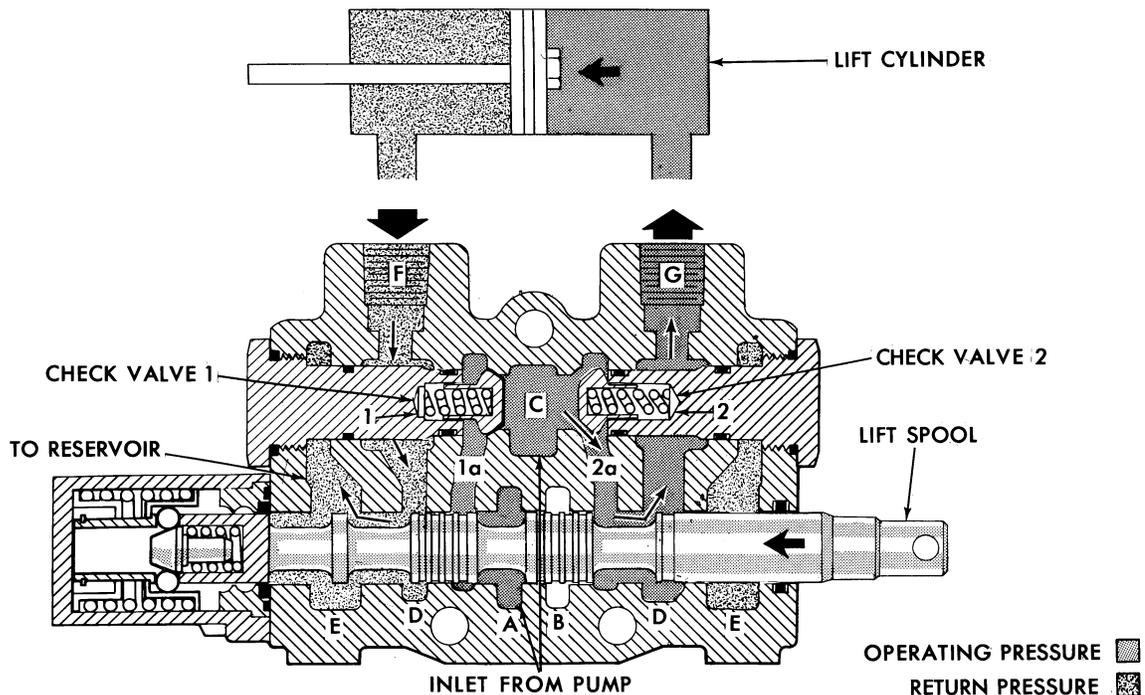

Figure 21
In operation, the check valve, Figure 21, is retained on its seat by spring force. At initial spool movement the natural tendency is for the oil, which is under external pressure, to seek passage at an area of lesser pressure. If the cylinder end passage is filled, the oil would then attempt to flow past the opened spool. This oil is held at the check valve until the pumped oil overcomes the force holding the check valve on its seat. As the pressure increases, the pressured oil unseats the check valve and pressured oil flows to the cylinder.
Figure 21 illustrates oil flow through the lift section to the cylinder hose ports, with the spool moved inward, causing the lift arms to raise. Oil enters the inlet port of the lift section at (A). The spool lands block the oil from flowing through the valve section. All pumped oil is directed through drilled passages to passage (C) where it is blocked at the end plate. This causes an oil pressure buildup in passage (C). As the pressure increases, check valves (1) and (2) are unseated to allow pressured oil to enter passage (1a) and (2a). Oil is blocked at passage (1a) by the spool land. Pressured oil flows by the check valve